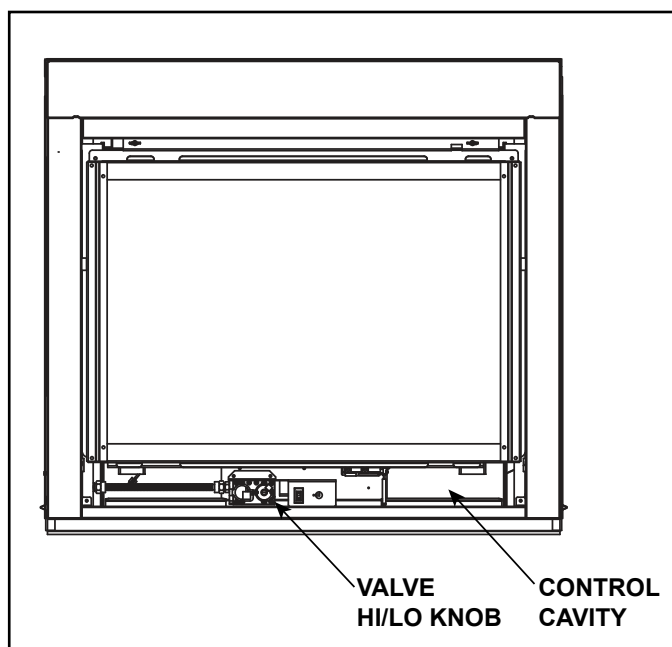

Figure 3.6 Control Cavity/Valve Location
The Mercury models have a variable burn rate which is controlled by the HI/LO knob on the gas valve. Therefore the flame height is adjustable. The HI/LO knob is shown in Figure 3.6. It is located in the control cavity of the appliance. The HI/LO knob may be adjusted as desired by turning counterclockwise to the HIGH position and by turning clockwise to the LO position.
The IntelliFire intermittent pilot ignition system comes with a battery backup system that enables the system to operate in a power outage. A factory-installed battery pack is located in the control cavity of the appliance. See Figure 3.6. Batteries should not be placed in the battery tray while using electrical power to operate the fireplace. Remove batteries from battery tray when power has been restored.
1. Access the control cavity of the appliance. See Figure 3.6 for location. The decorative front may need to be removed.